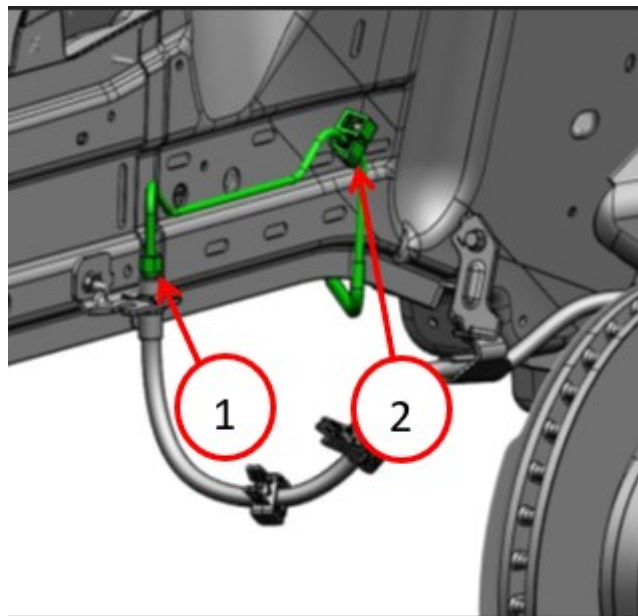

Fig. 1
8. Unthread brake line fittings and release retainer from the brake flex hose on the left side (Fig. 1).